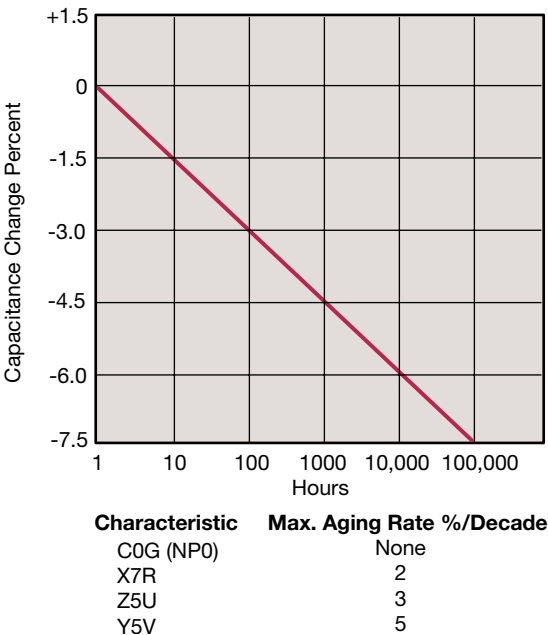

Figure 6
**Effects of Time** – Class 2 ceramic capacitors change capacitance and dissipation factor with time as well as temperature, voltage and frequency. This change with time is known as aging. Aging is caused by a gradual re-alignment of the crystalline structure of the ceramic and produces an exponential loss in capacitance and decrease in dissipation factor versus time. A typical curve of aging rate for semi-stable ceramics is shown in Figure 6.